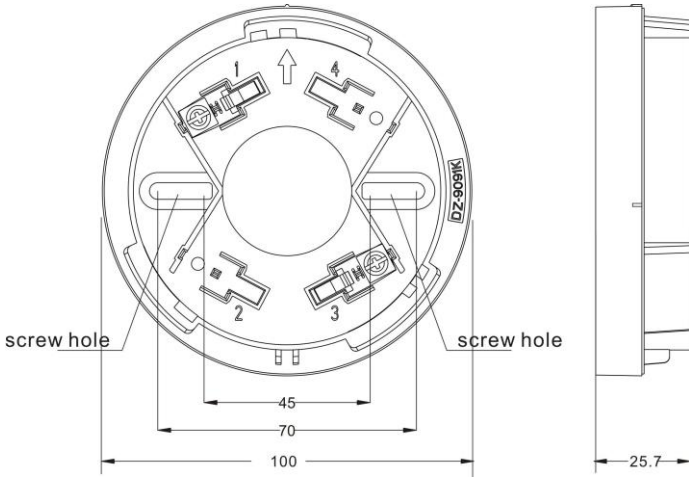

Fig. 3 Base and wiring diagram
1. Use two M4 screws to fix the DZ-9091K base via the two elliptic screw holes(see Fig.3), then connect the power cables with the Terminal 1& 3 (1 connected with positive,and 3 with negative.1.5mm2 or above fire cable for the power input is recommended.), finally twist the main body onto the base.